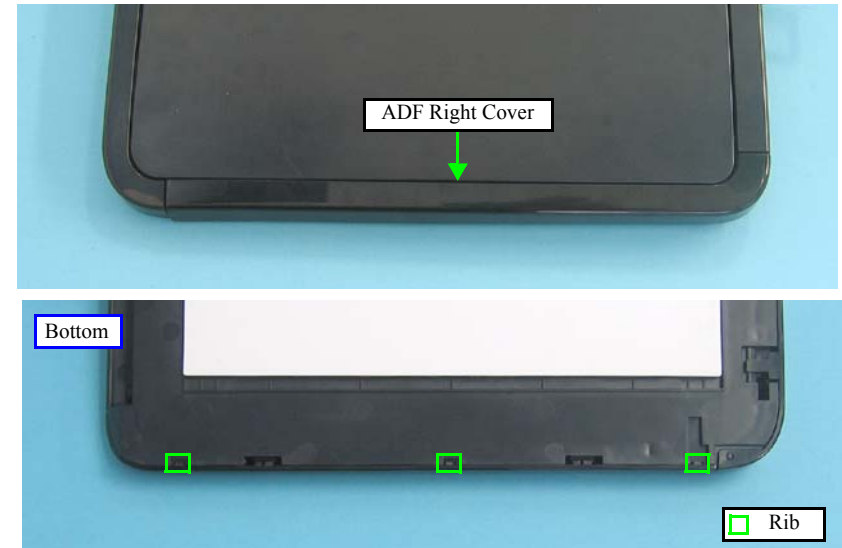

Figure 4-132. Removing the ADF Right Cover
- When installing the ADF Right Cover, align the ribs (x3) shown in Figure 4-132, the positioning holes as shown below, with the dowels (x2), and hooks (x2).